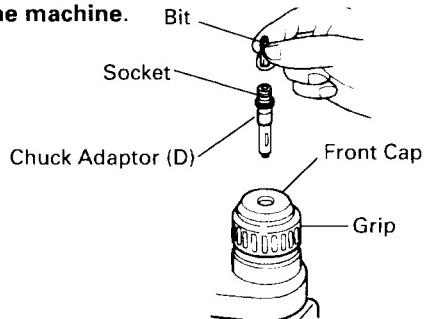

Fig. 10
4. When driving machine screws (Fig. 10)
- Do not attempt to use the rotary hammer in the rotation and striking function with chuck adaptor (D) and bit attached.
5. When driving wood screws (Fig. 10)**(1) Selecting a suitable driver bit**